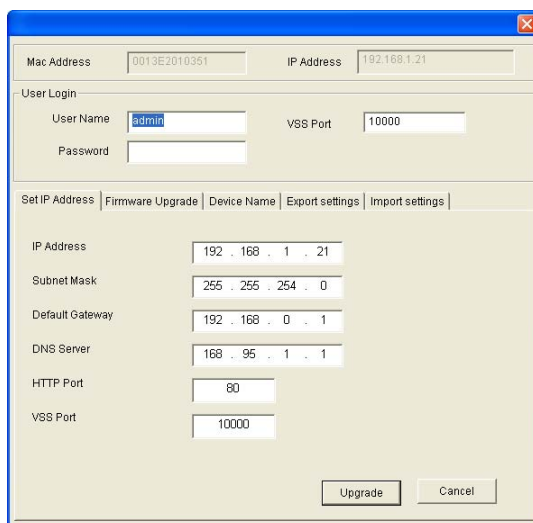

Figure 5-3
- Double-click the GV-DSP LPR in the list. Figure 5-3 appears.
1. In Figure 5-3, click the **Import Settings** tab. This dialog box appears.